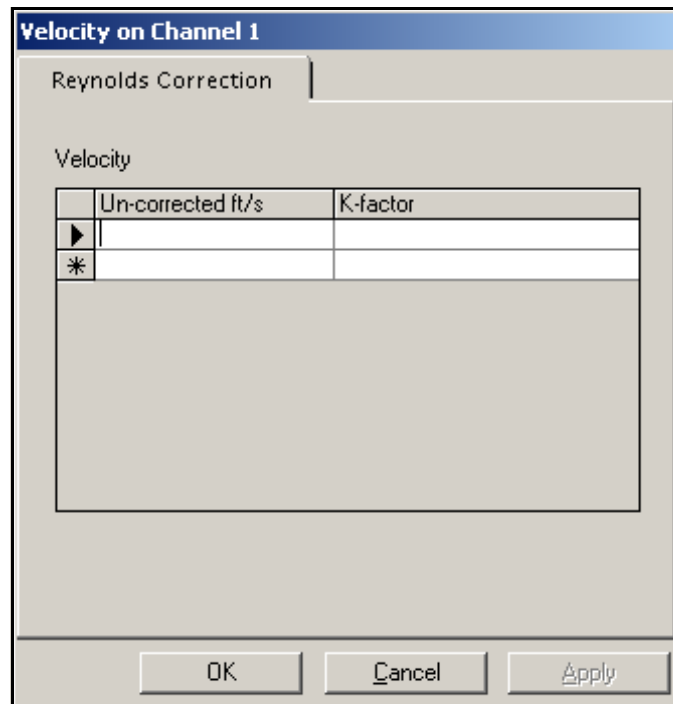

Figure 60: PanaView Velocity Correction Display
4. Click twice on Vel and the Velocity display appears (see *Figure 60* below).